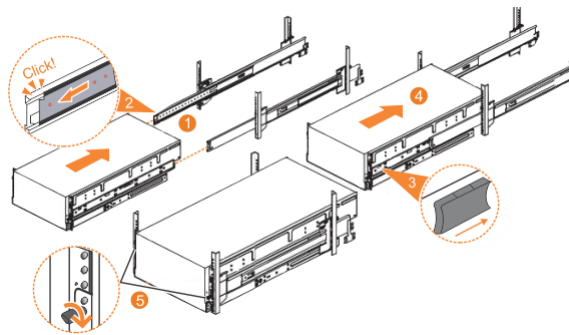

Figure 49. Replacing the 5U enclosure in the rack
1. Fully extend the left and right drawer sections from the rack to lock the rails in the extended position (**1** in Figure 49 on page 91).
2. Ensure that the ball bearing retainer clicks into place inside the front of the left and right drawer sections (**2** in Figure 49 on page 91).
6. Locate the left and right blue release tabs near the front of the enclosure. Press both release tabs forward to unlock the drawer mechanism (3 in Figure 49 on page 91).
7. Push the enclosure firmly into the rack (4 in Figure 49 on page 91).
8. Tighten the locking thumb screws (5 in Figure 49 on page 91) to secure the enclosure in the rack.